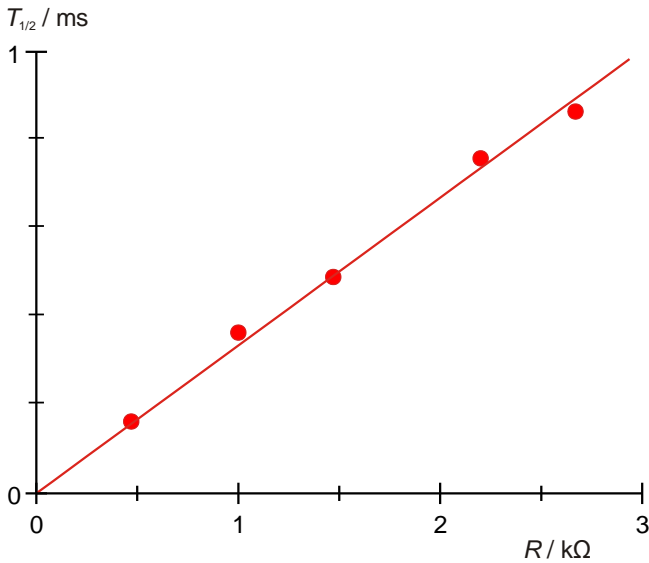

Fig. 5: Half-life  $T_{1/2}$  as a function of resistance  $R$ .
- Plot the “half-way” values  $T_{1/2}$  from Table 3 against the resistance  $R$  on a graph and join up the points with a straight line through the origin (Fig. 5).
- To verify equation (3), determine the capacitance  $C$  from the gradient of the line  $m_C$ .
- Plot the “half-way times  $T_{1/2}$  from Table 5 against the products  $R \cdot C$  on a graph and join the points with a straight line through the origin (Fig. 5).
- To verify equation (3), determine the resistance use the gradient of the line  $m$  to determine that the coefficient of proportionality is  $\ln 2$ .